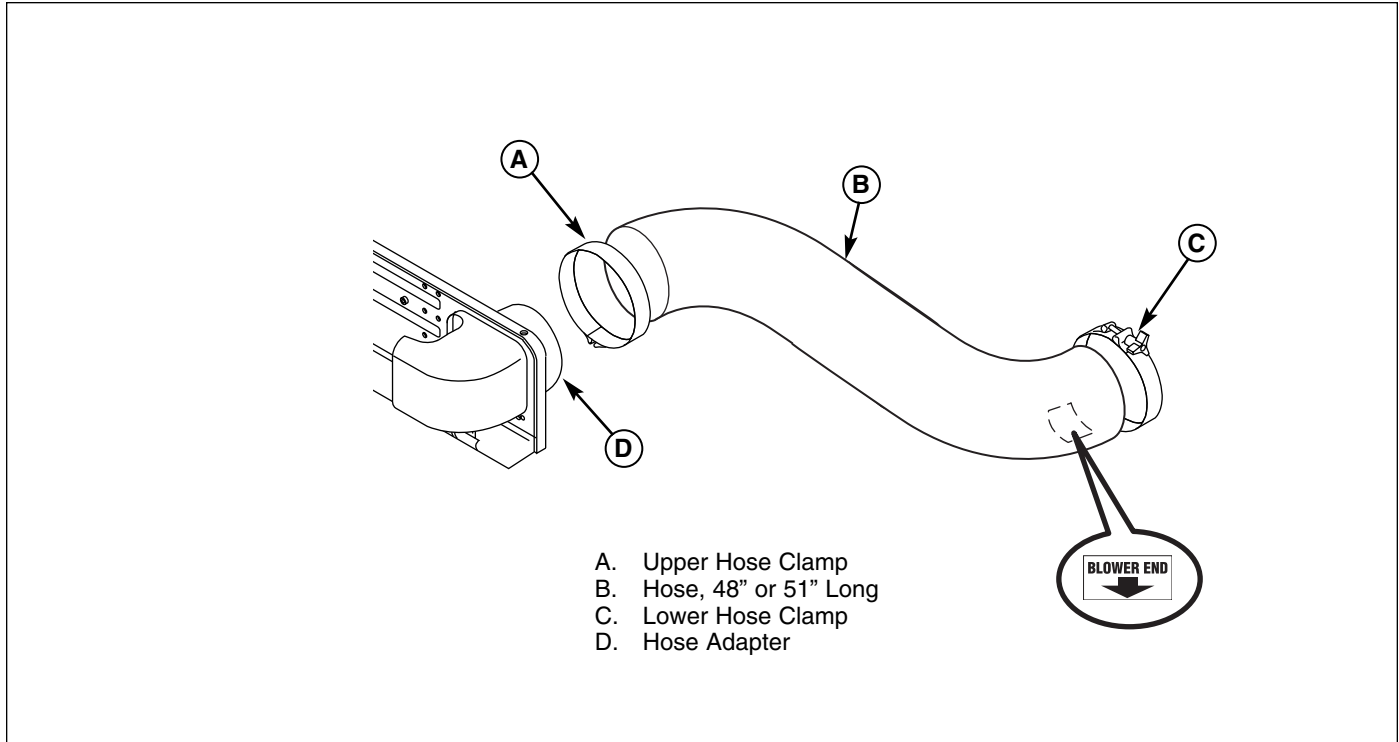

Figure 20. Install Hose
2. Insert the hose (B, Figure 20) over the hose adapter (D) on the bagger unit and overlap by at least two bands. Secure in place with the upper hose clamp (A) as shown.
3. Insert the lower end of the hose over the blower exhaust port and overlap by at least two bands. Make sure the blower end decal is pointing towards the blower exhaust port. Make sure there is clearance between the hose and drive tire. It may be necessary to loosen the upper clamp and twist the hose to move the hose away from the tire. Secure in place with the lower hose clamp (C) by hand-tightening the knob.